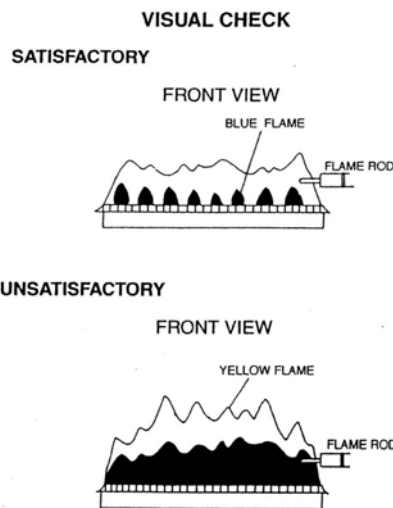

Figure 19. Burner Flame Appearance.
2. Visually inspect the burner flames. The flame must burn with a clear blue, stable flame (possibly with orange tips). Refer to Figure 19 for satisfactory flame appearance. If the burner flame appearance is not satisfactory or debris is visible on the burners, remove and clean with a vacuum cleaner.